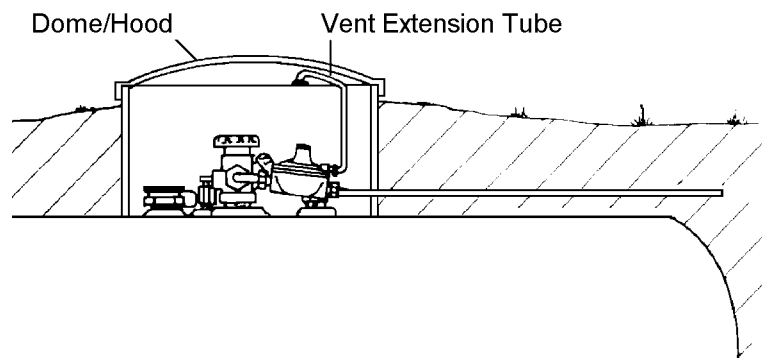

Figure 2. Underground Propane Storage Installation
- (b) **Underground Pressure Regulator Installations.** The vent on underground regulator installations should be piped above the water table, as illustrated in Figure 2. The open end of the vent extension tube should be pointed downward.